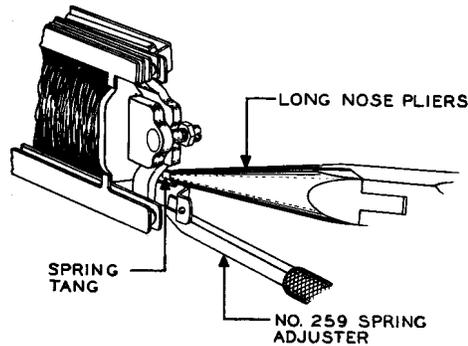

Fig. 21 - Method of Adjusting Spring Tang
(6) Stud Gap: The stud gap requirement should also be met at the same time springs are adjusted to meet the contact pressure requirements. If it is difficult to meet this requirement by a readjustment of the springs, it will be satisfactory to bend the tang a slight amount. Use the P-long-nose pliers to bend the tangs holding the spring with the No. 259 spring adjuster as shown in Fig. 21. In making this adjustment, note that the spring tangs rest as nearly flat on the spoolhead as possible consistent with meeting all the other requirements.
(7) Contact Separation: To correct the separation, adjust the spring with the No. 259 spring adjuster or the spring tang with the P-long-nose pliers. See (6) regarding adjustment of spring tangs.
(8) In adjusting the front contact separation on break before make springs, adjust the springs so that the contact separation is sufficient to insure that spring sequence will be obtained under operating conditions.